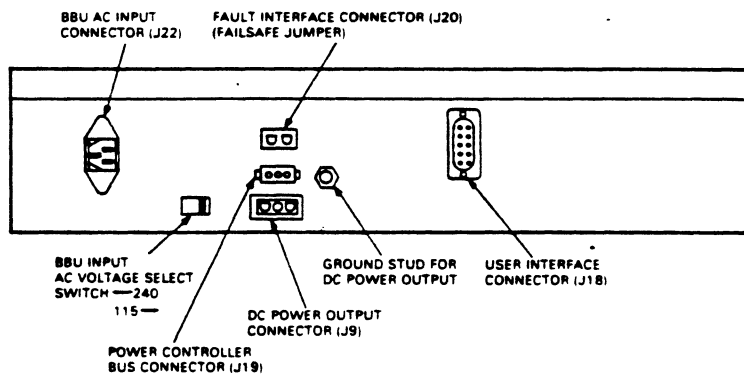

FIGURE 2-31 BBU REAR PANEL
5. Set the rear BBU AC VOLTAGE SELECT switch to match the front panel VOLTAGE SELECT switch. See Figure 2-31.